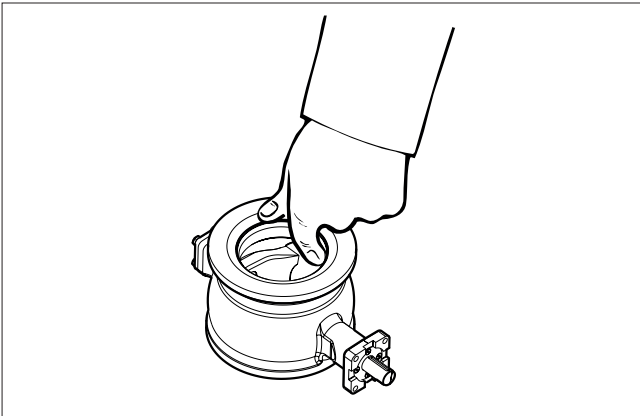

Fig. 21 Turning the ball segment
- Turn the segment (3) so that it does not touch the seat, Fig. 21.